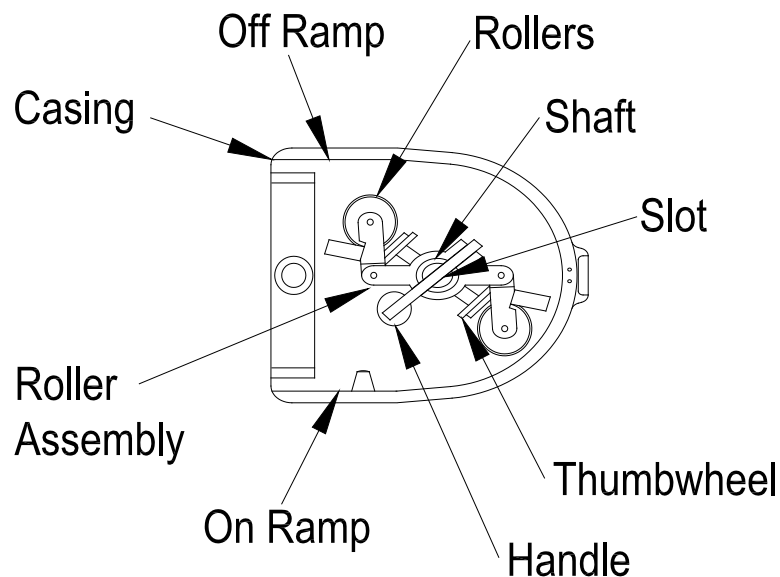

Figure 9: Roller Pump.
2. Lift the roller pump-casing lid. Refer to **Figure 9**.